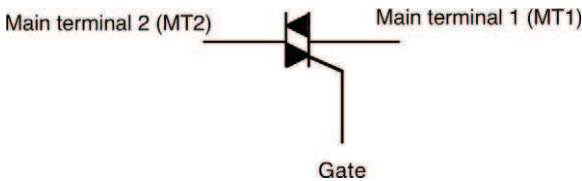
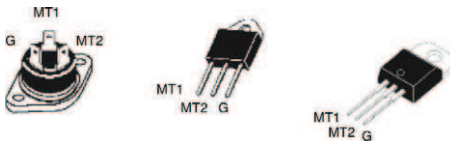

FIGURE 3.35 Triac circuit symbol.
FIGURE 3.36 Some triac leadouts.
Where thyristors are used to control direct current, *triacs* are used to control alternating current. Their terminals are known as *main terminal 1* (MT1), *main terminal 2* (MT2) and *gate* (G). Circuit symbol for a triac is shown in Figure 3.35, while Figure 3.36 shows some common triac leadouts.